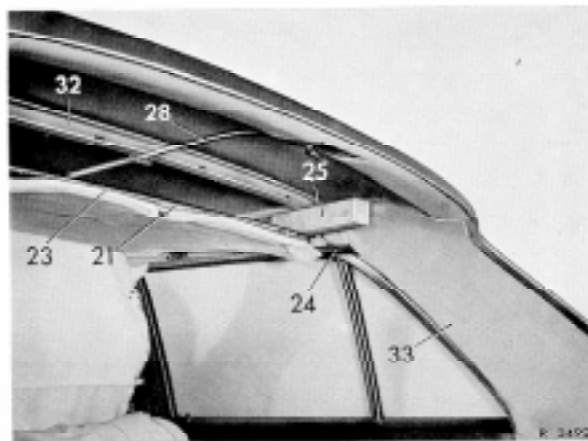

Fig. 1 (shown on Model 114/115)
- 6 Remove soundproofing (23) along rear edge of sliding roof frame (21) (Fig. 1).